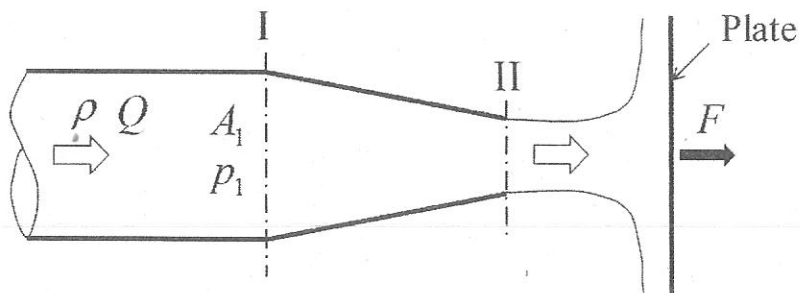

Figure 2
- b) A plate was inserted in front of the exit perpendicularly to the jet as shown in Figure 2. The jet was then bent 90 degrees and spread symmetrically along the plate. Express the force F exerted on the plate in terms of the pressure p_1 and the cross-sectional area A_1 at Section I.